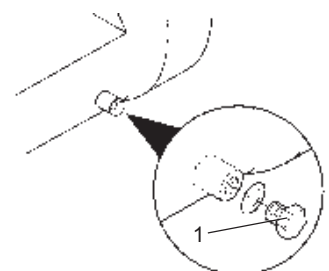

Fig.21 Removal of the plug
- Once the tank is empty, clean the inlet, the copper washer and the drainage plug with petrol and then replace the drainage plug, drawing this up tightly. Remember to insert the washer (fig.21).